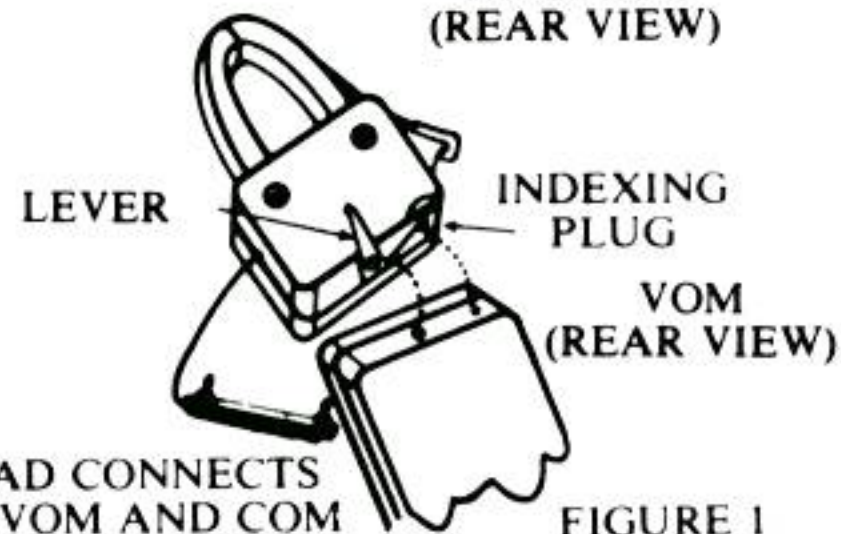

FIGURE 1
1. Rotate the lever on the bottom of the adapter until it points straight out (See Figure 1).